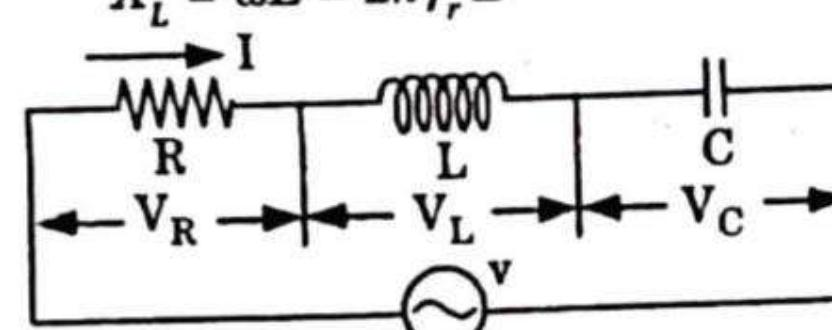

Fig. 2.28.1.
1. Consider an AC circuit containing a resistance R , inductance L and a capacitance C connected in series, as shown in Fig. 2.28.1.